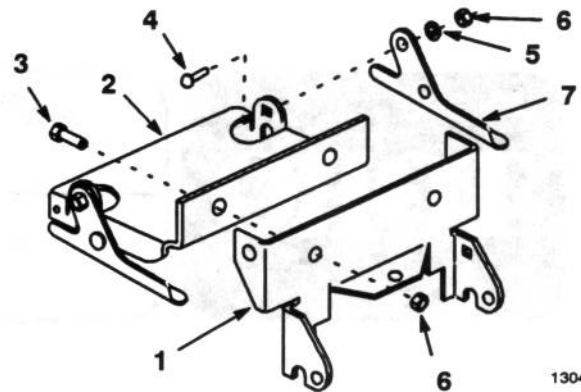

Figure 2
3. Assemble rear mounting plate and blade bracket with bolts (heads toward the rear) and lock nuts through holes in vertical plates (Fig. 2).
4. For blade use latch levers must be installed onto the blade bracket (Fig. 2). Install latch levers on the blade bracket with previously removed hardware (Fig. 2).